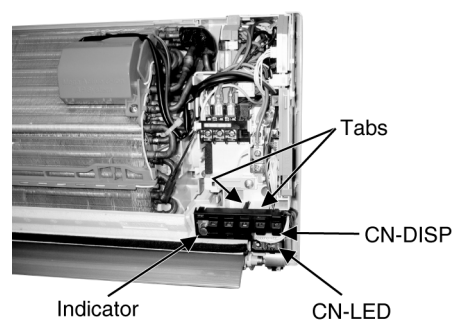

Fig. 3
- Release the Indicator by detaching the CN-DISP and CN-LED, then remove the Indicator from the 2 tabs. (Fig. 3)